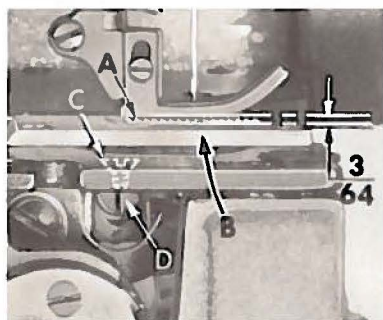

Fig. 9
Set the feed dog (A, Fig. 9) in the throat plate (B) so there is equal clearance on all sides. See that the tips of the teeth extend the depth of a tooth or approximately $\frac{3}{64}$ inch above the throat plate and are parallel with the throat plate at high point of travel. Adjust the supporting screw (C), under the feed dog, to maintain this setting. Screw (D) is used to hold feed dog in position.